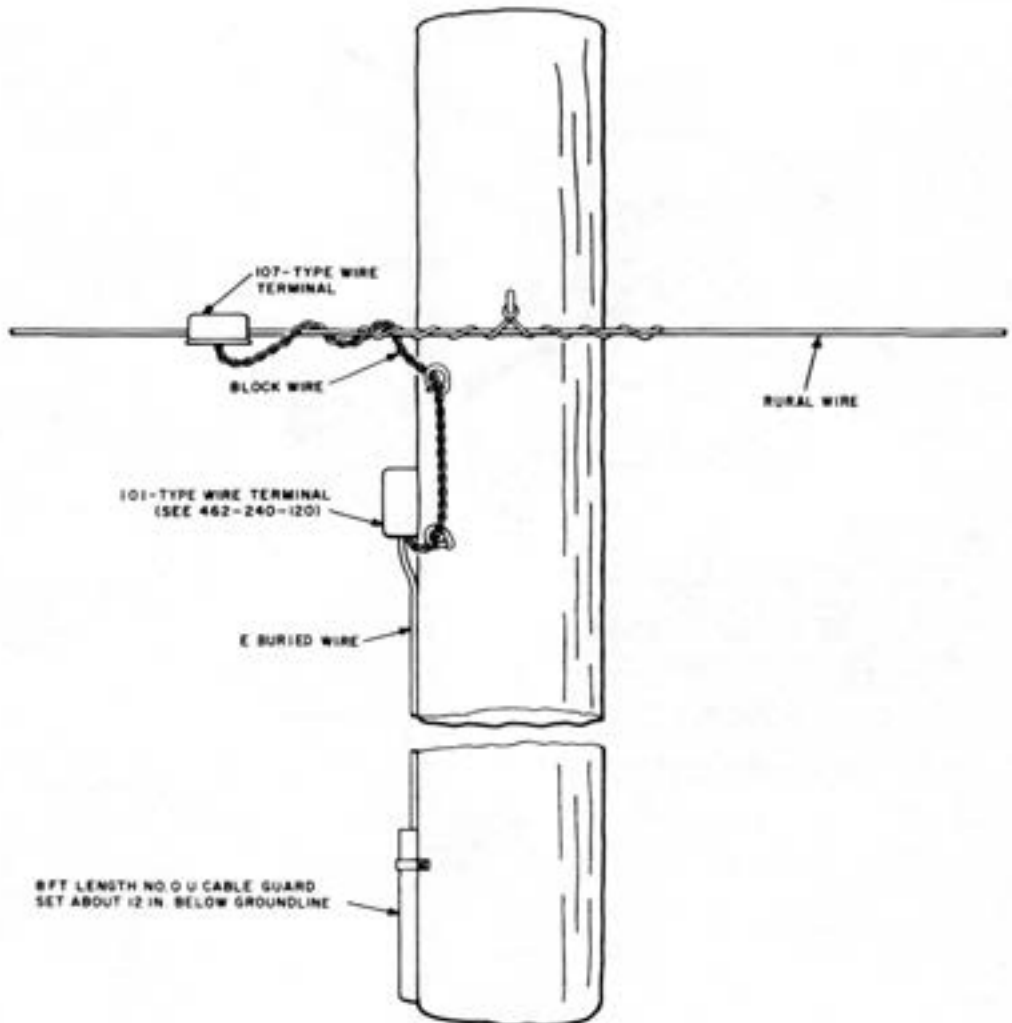

Fig. 30—Termination of E Buried Wire and Rural Wire
9.02 At the junction with C rural wire, E buried wire can be brought up a pole and terminated in a 101B2 wire terminal. The metallic shield should be cut off and taped as shown in Fig. 26. Block wire should be used to bridge between the 101B2 wire terminal and the 107-type wire terminal on the C rural wire. At the groundline, the E buried wire should be covered with an 8-foot length of No. 0 U cable guard. A typical installation is shown in Fig. 30.